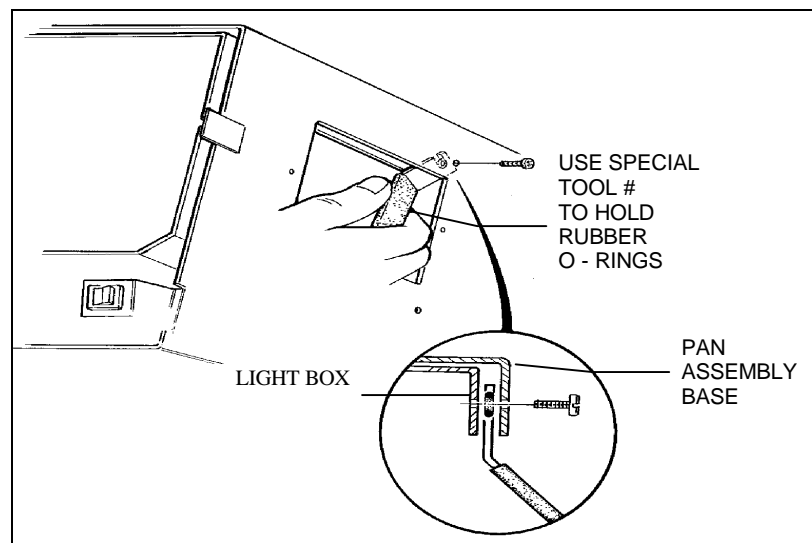

Figure 6-25. Installing the Rubber O-Rings
11. Turn the unit on its side and install the two screws through the pan and into the light box. The use of a special tool (# ----) is required to hold the rubber o-rings in place while the screws are being inserted. (Figure 6-25)